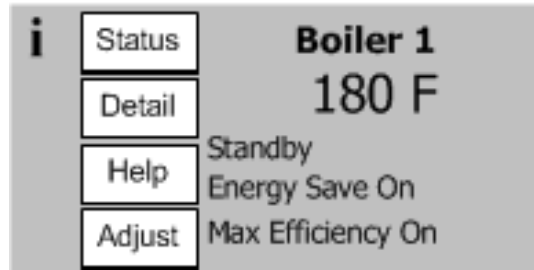
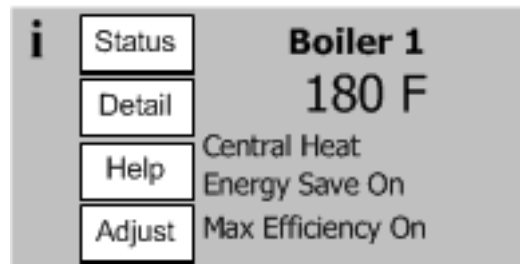

Figure 11.2a: Home Screen at Power-Up (No Call for Heat)
Figure 11.2b: Home Screen on Heat Demand
- 11) Start the boiler using the lighting instructions on page 102. With the boiler powered up, and with no call for heat, the display should look like Figure 11.2a. Once a call for heat is present, it will look like Figure 11.2b.